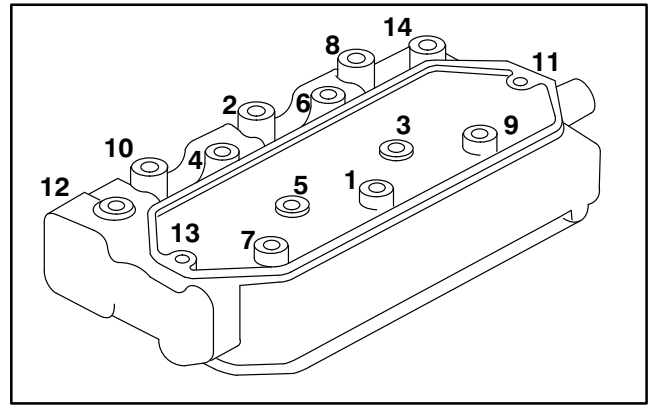

Figure 38
2. Using sequence in figure 38, torque head bolts to 25 ft. –lb.